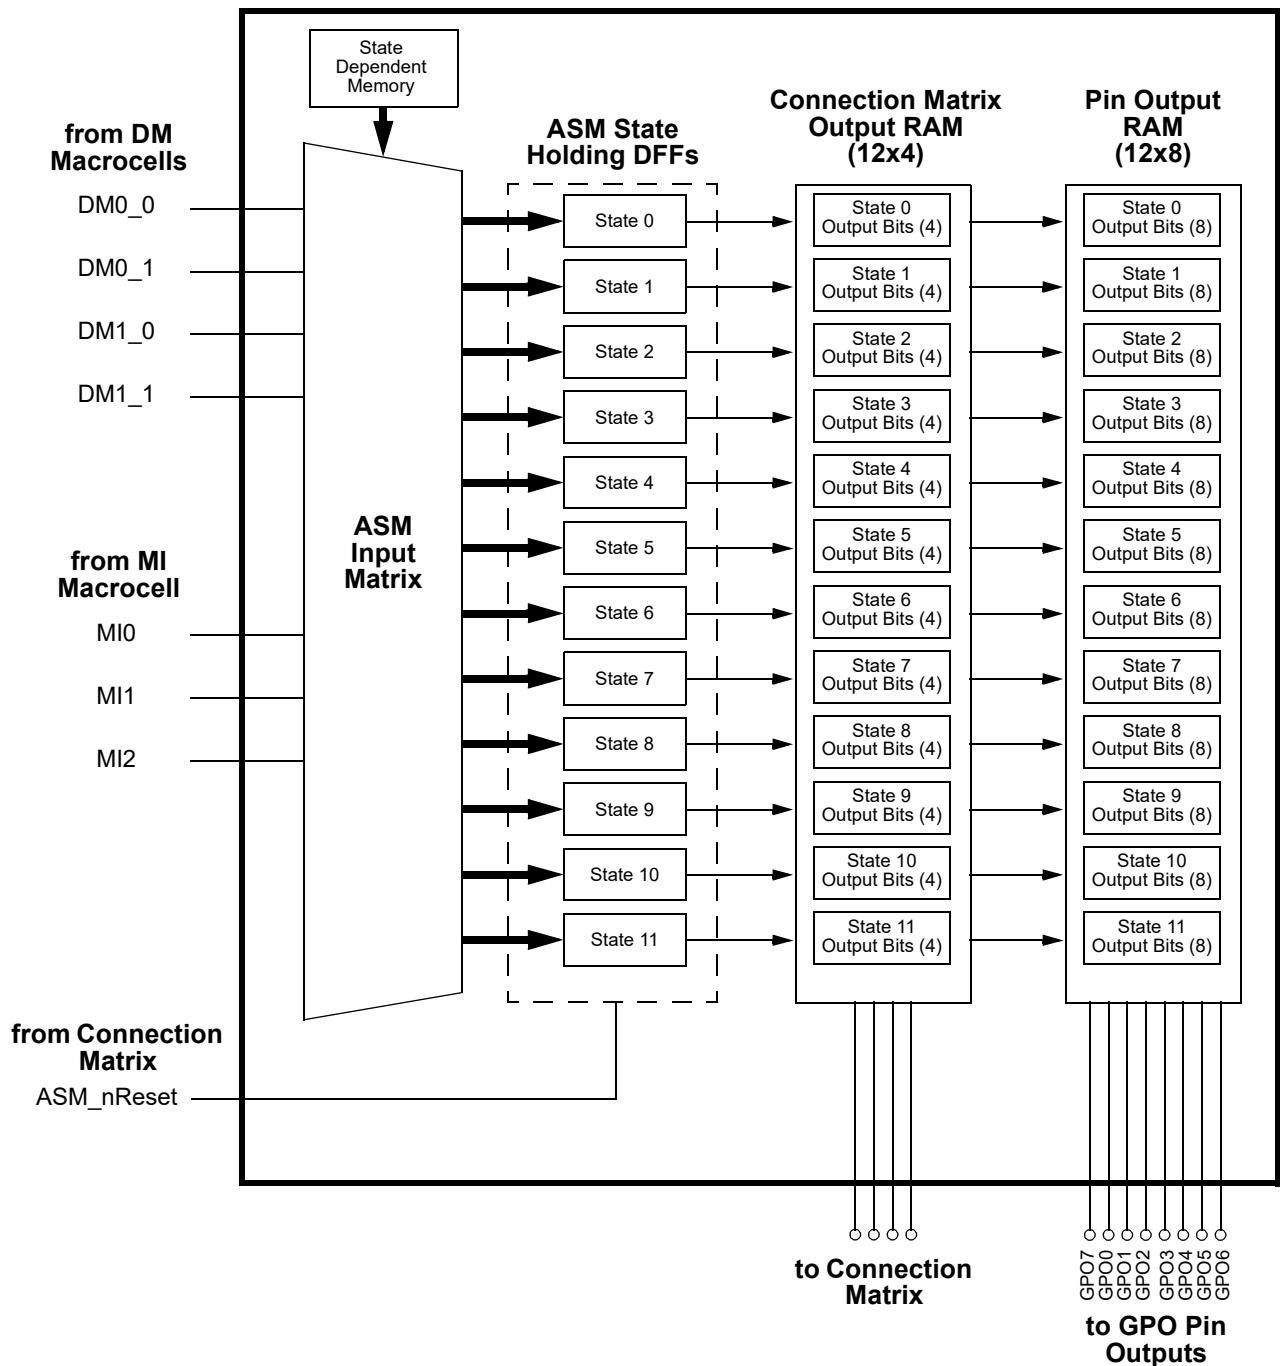

Figure 96: 12 State ASM Macrocell
The ASM macrocell has a total of 8 input signal lines, as shown in Figure 96, which come from a combination of three Matrix Interface (MI) macrocell outputs and DM macrocell outputs. Of these 8 inputs, 3 are user selectable inputs coming from the three Matrix Interface (MI) macrocells (one per macrocell) to the ASM macrocell. There are also 4 inputs that come from the DMx\_x macrocells (one per macrocell). There is 1 ASM\_nReset input that is for driving a state transition in the ASM macrocell to a user defined Initial/Reset state.
The GPAK Designer development tools support user designs for the ASM macrocell at both the physical level and logic level. Figure 96 is a representation of the user design at the logical level, and Figure 96 shows the physical resources inside the various macrocells in the ASM Subsystem. To best utilize this subsystem, the user must develop a logical representation of their desired state machine, as well as a physical mapping of the input and outputs required for the desired functionality.
The ASM macrocell has a total of 8 input signal lines, as shown in Figure 96, which come from a combination of Connection Matrix outputs and DM macrocell outputs.